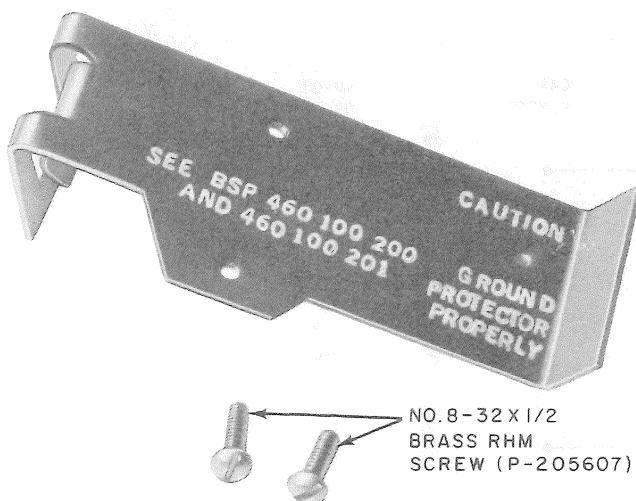

Fig. 32—7A Clip For Mounting 123A1A Protector and 840362024 Capacitor Board Assembly in Panel Phone
- Install the protector inside a 2A- or 2C-type set on a 7A clip (Fig. 32). Push the 7A clip, with protector, in the set so its spring loaded flange fastens on the right leg of the